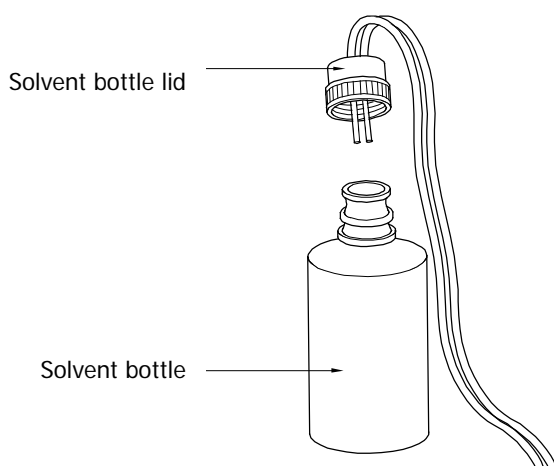

Figure 23 Connecting the solvent tubing
1. Thread the tubing from top to bottom through the cap of the wash bottle as shown in Figure 23.